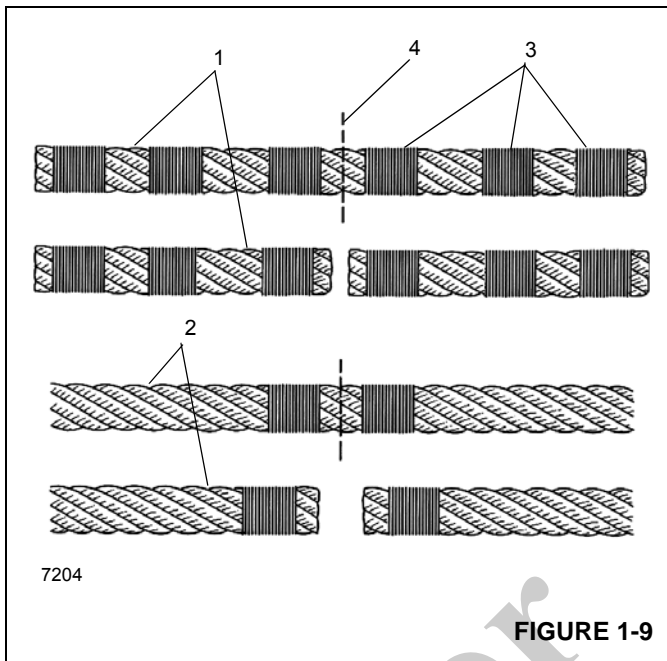

FIGURE 1-9
NOTE: Non-preformed wire rope (1) (Figure 1-9) should have three seizings (3) located on each side of the cut (4) as compared to performed wire rope (2).